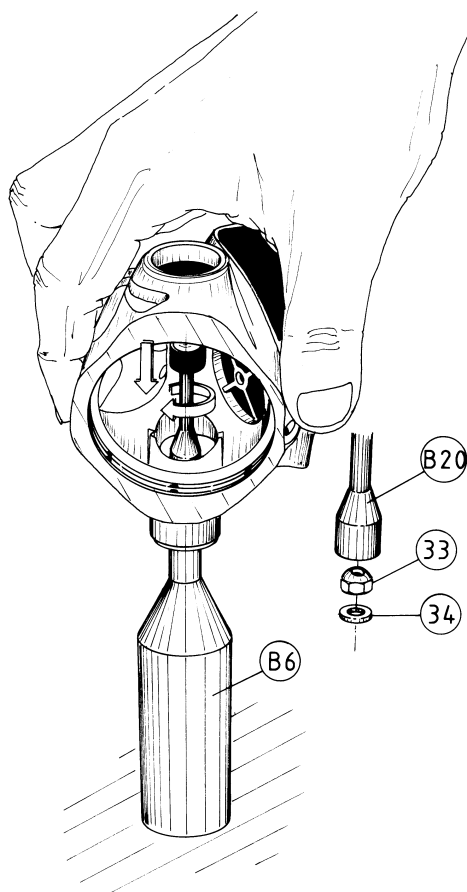

FIG. 4
A.3 Fit the washer (34) on the poppet stem which protrudes inside the 2nd stage case and lock down the adjusting nut (33) through a few turns, using the special wrench (B-20) (Fig. 4).